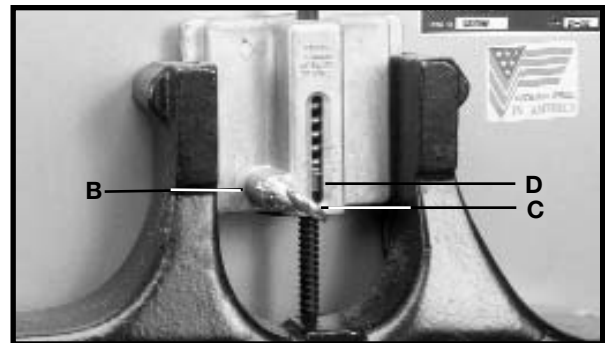

Fig. 25
After applying tension to the blade, rotate the wheels slowly forward by hand and observe the blade's movement. The blade (A) Fig. 24 should travel in the center of the upper tire. If the blade creeps toward the front edge, loosen the wing nut (B) Fig. 25, and tighten the thumb screw (C). This action draws the blade toward the center of the tire. If the blade creeps toward the back edge, turn the thumb screw in the opposite direction. Adjust the thumb screw (C) Fig. 25 only a fraction of a turn each time. **NEVER TRACK THE BLADE WHILE THE TOOL IS RUNNING.** After the blade is tracking in the center of the tires, tighten the wing nut (B) Fig. 25.